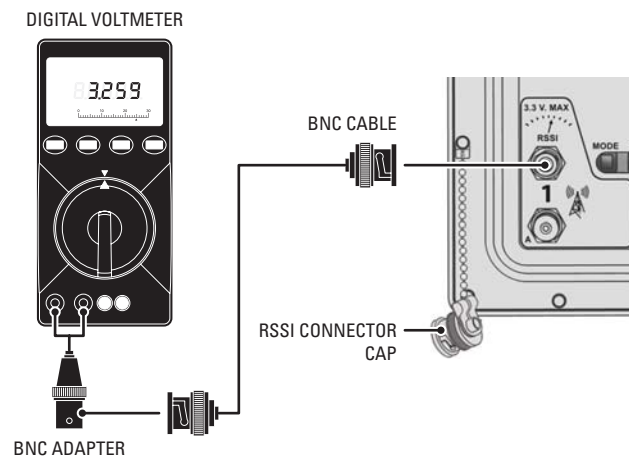

Figure 17. Connecting a DVM to the EW5001
5. Uncap the RSSI connector on the EW5001 (refer to Figure 17).